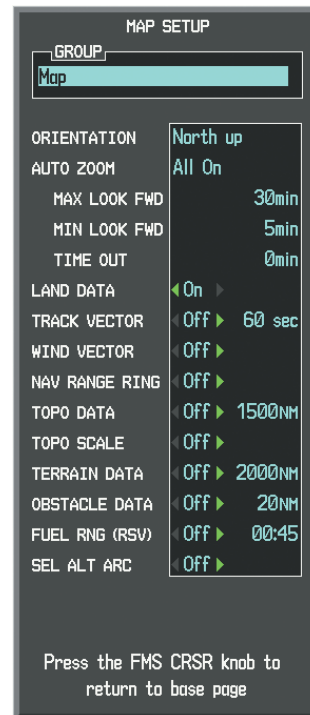

Figure 6-81 Navigation Map Page Setup Menu, Map Group
- 5) Turn the large **FMS** Knob or press the **ENT** Key to scroll through product selections (Figure 6-81).